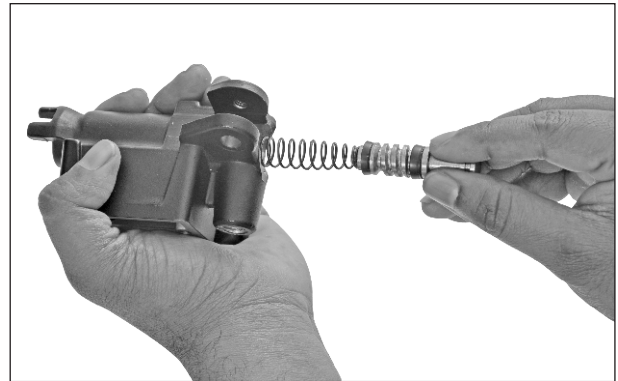

Fig. 6.42
- Slowly pull out the piston along with the P - cup, S - cup and spring. (Fig. 6.42) Clean the system thoroughly using fresh brake fluid.